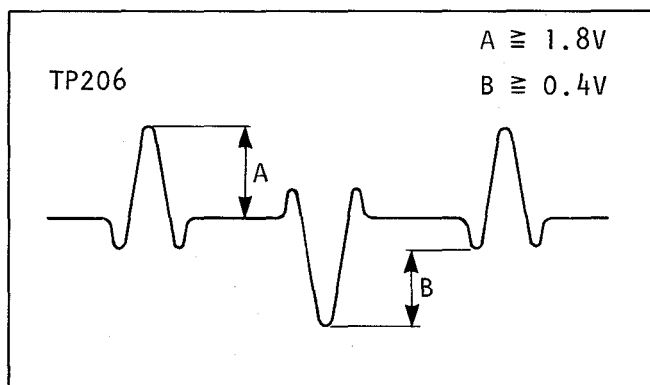

Fig.E16. P.G. Head Output
3. Confirm that the level is as shown in Fig.E16.